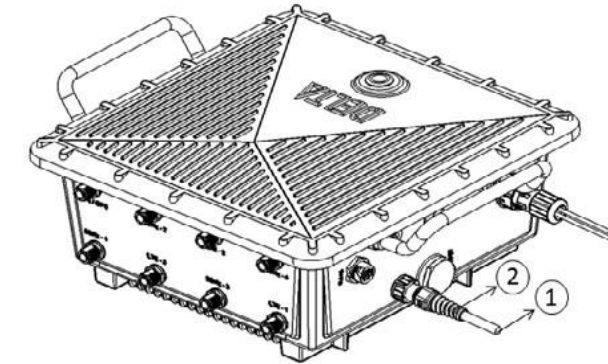

Figure 25: Connecting RJ-45 cabling - 1
- a. Locate the RJ-45 cable mount assembly (Item-C). Insert the RJ-45 cable into the connector before plugging the connector into the hyperSPROUT™ smarhub or hyperHUB™ access point as shown in Figure 25.